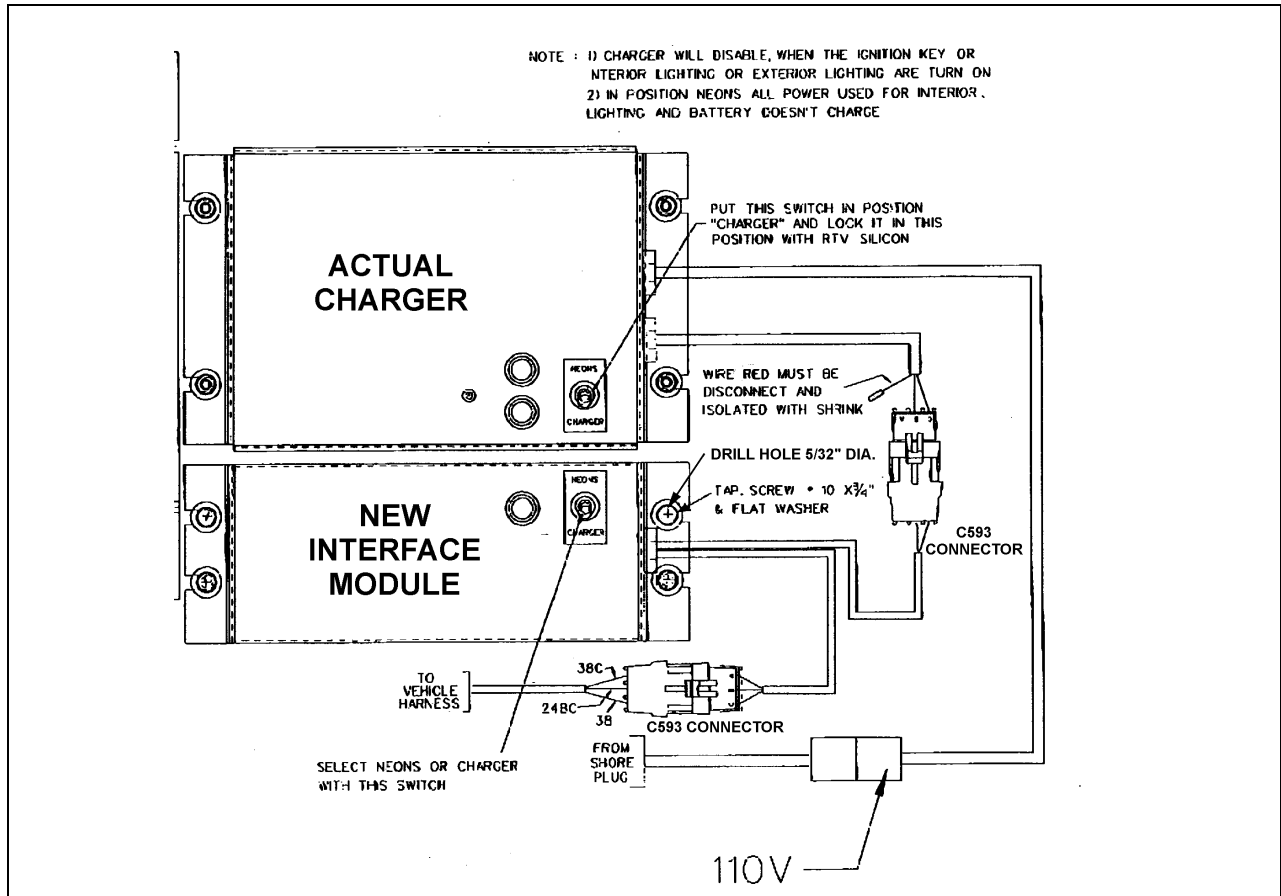

figure 3 : new interface module location
3. Install the new interface module below the charger. Keep a minimum of ½" between these two components. Drill 4 holes dia. 5/32" and use 4 self-tapping screws 10X3/4" and 4 washers (figure 3).
5. Fix the toggle switch on the charger in "charger" position with RTV silicone (figure 3).
6. Connect #C593 connectors of both the charger and the interface module together (figure 3).